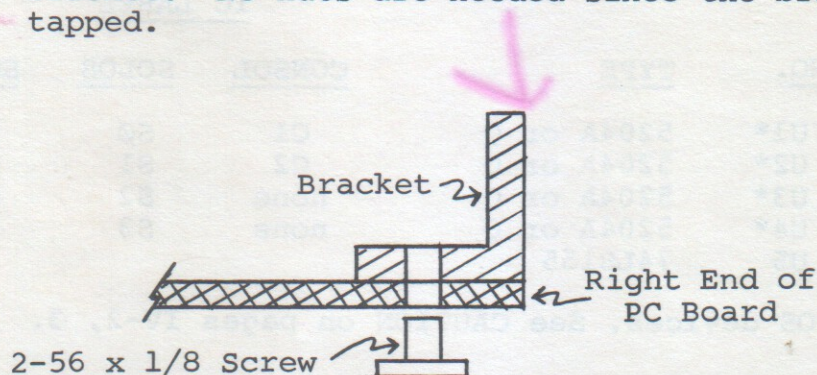

Figure 4-2. Handle bracket (Sol-1045) installation.
- () Step 6. Using two 2-56 x 1/8 binder head screws, install handle bracket (Sol-1045). Position bracket on front (component) side of board at the right end as shown in Figure 4-2. Align bracket holes with mounting holes in board, insert screws from back (solder) side of board and drive into bracket. No nuts are needed since the bracket holes are tapped.